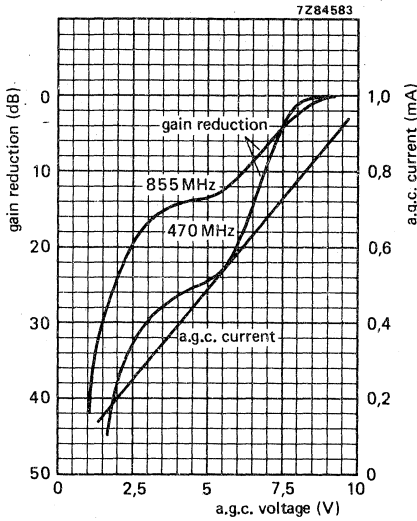

Fig. 5.
A.G.C. voltage (Fig. 5), at nominal gain $+9,2 \pm 0,5$ V
A.G.C. current (Fig. 5)